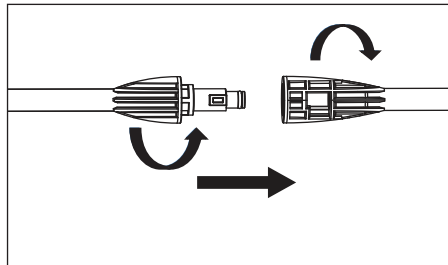

Figure 5 - Attach lance to gun
3. Attach lance to gun, twist and lock. Attach nozzle or detergent bottle to lance by pressing the Easy Connect button and inserting into Quick Connect on lance (see Figures 5, 6 and 7).